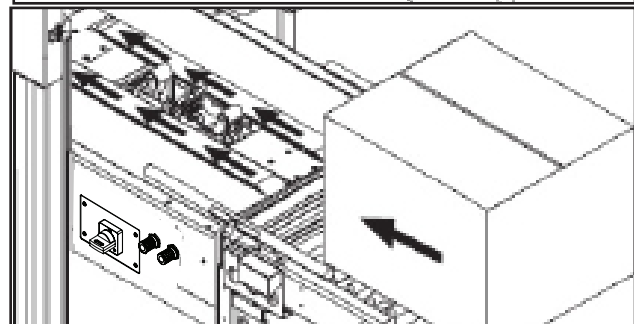

Figure 7-21 Drive Belts
3. Once the box is pushed under the upper taping head, the upper drive assembly raising switch is released causing the upper drive assembly to descend onto the box top, as shown in Figure 7-21, allowing the drive belts to convey the box through the upper and lower taping heads for application of the tape seals.